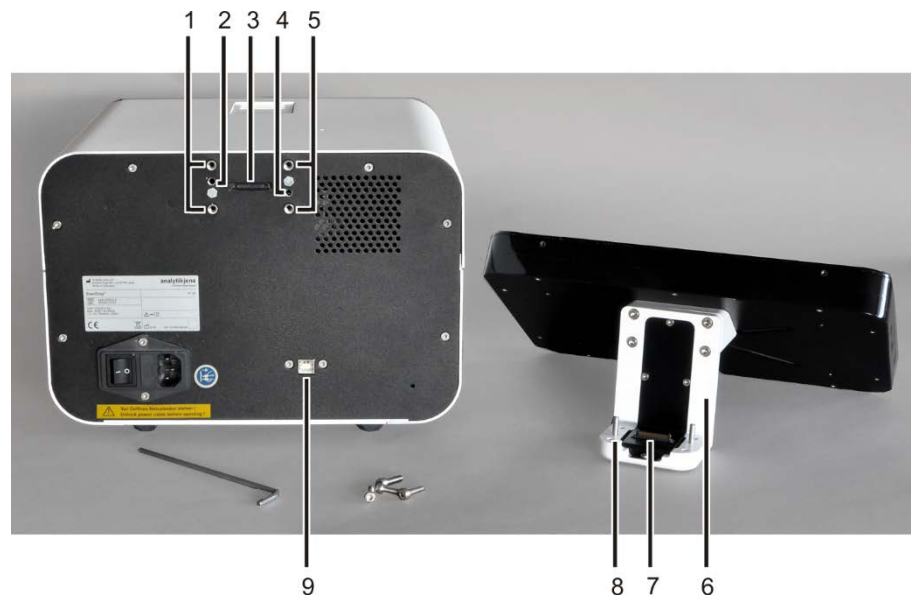

Fig. 17 Mounting the tablet to the ScanDrop²
2. Detach the USB cable from the port on the rear of the ScanDrop² (9 in Fig. 17).
3. Remove the protective cap covering the port for the tablet (3). To do so, undo the four hexagon socket screws. Keep the protective cap for future use.
4. Place the tablet with support bracket (6) on top of the ScanDrop², inserting the two guide pins (8) into the round holes in the casing (2,4). Push the support bracket towards the device until it is flush with the rear wall.